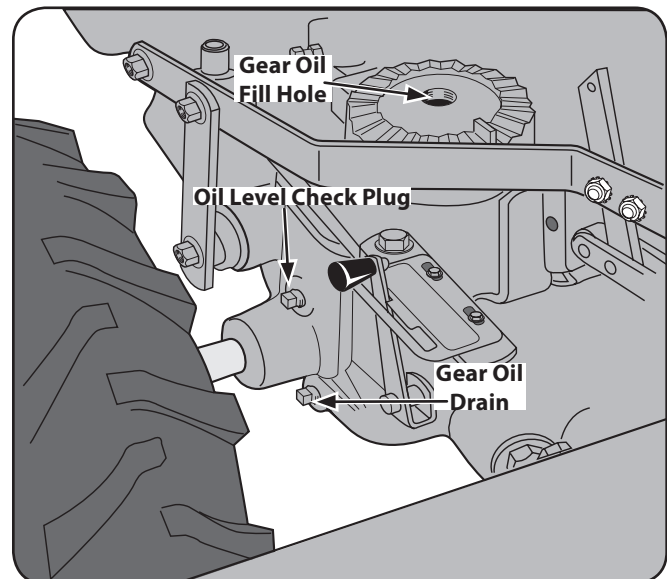

Figure 6-8
1. Place a shallow pan under the transmission gear oil drain plug. See Figure 6-8.